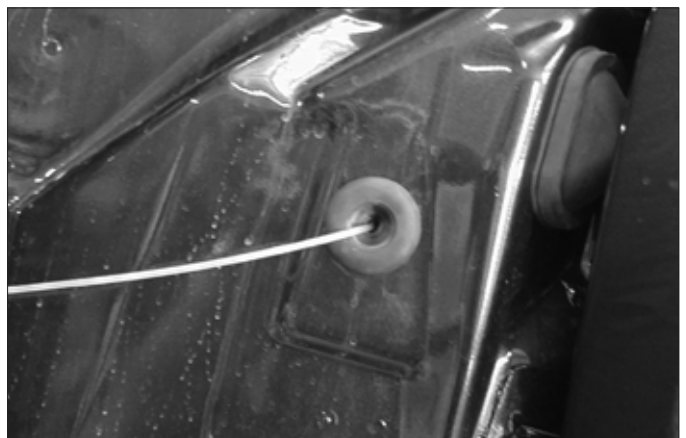

Fig. 9-3
- C. Attach the Compressor Bypass Assembly to the discharge tube. (See Appendix 1016066). Notice that the “T” fitting (item 5) goes between the Vacuum Reservoir and the Vacuum Branch next to the Brake Booster. Connect the vacuum line going to the Boost Gauge to the other “T” fitting. The Boost Gauge Vacuum line goes through the body panel through the grommet and comes out under the steering column. (See Fig. 9-3.)